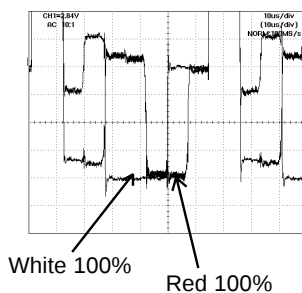

Fig. 2-2
8. Press the VOL. UP/DOWN button on the remote control until the red color level is adjusted to $100\% \pm 10\%$ of the white level. (Refer to Fig. 2-2)